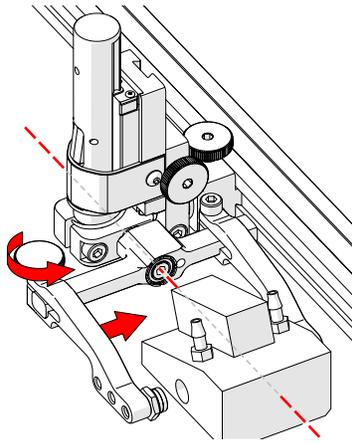

Fig. 78 - Adjust outer arm
5. Loosen the probe holder arm adjustment knob (Fig. 78) and slide the probe holder arm along the yoke pinching the wedge in place.